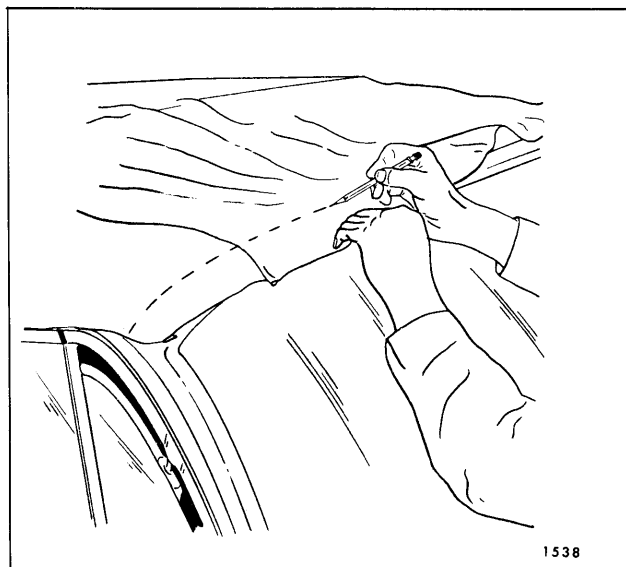

Fig. 13-24—Marking Top Material At Front Roof Rail
46. At front roof rail, pull top trim material forward to desired tension. While maintaining tension on top trim, place a pencil mark on outer surface of trim material along forward edge of front roof rail (Fig. 13-24).